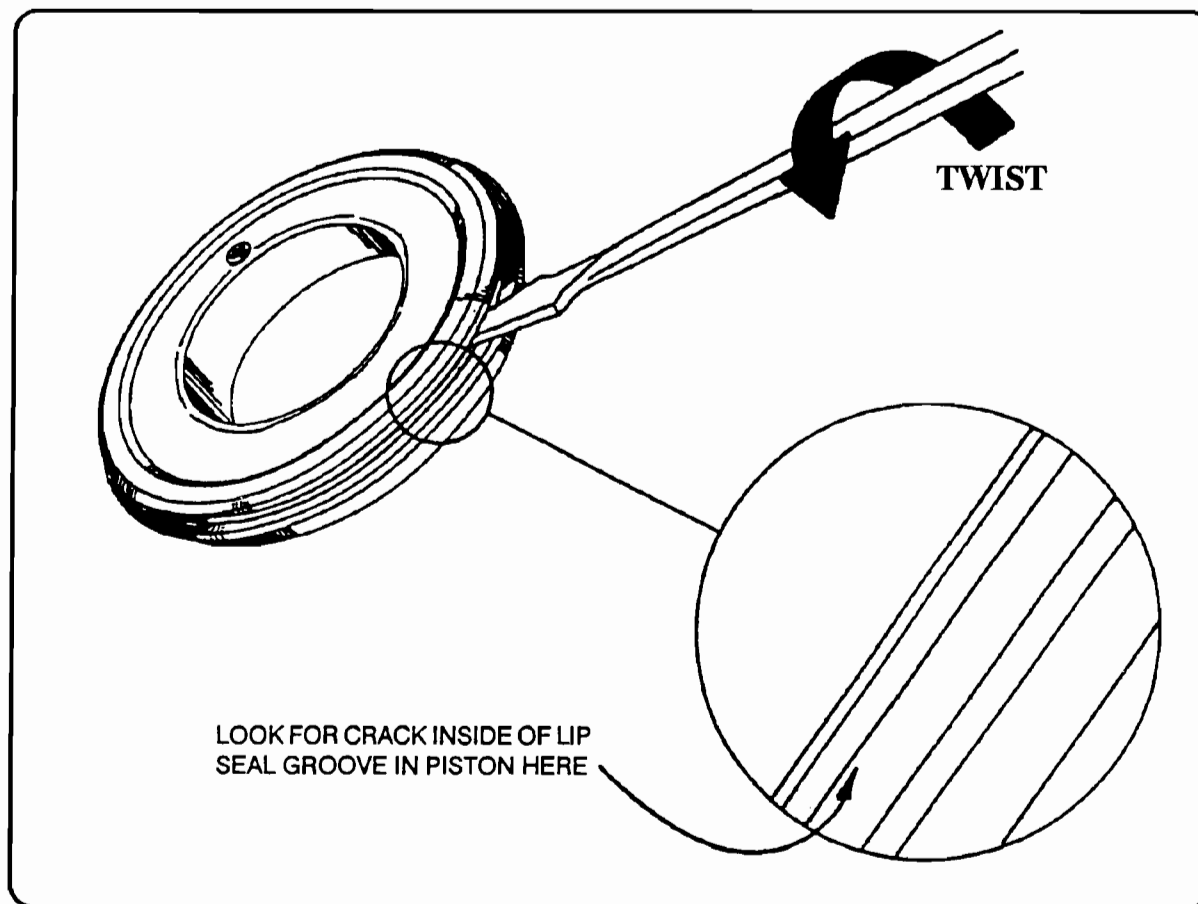

Figure 33
**CAUSE:** The cause may be cracked direct clutch piston. For procedure to check the piston, (see figure 33).